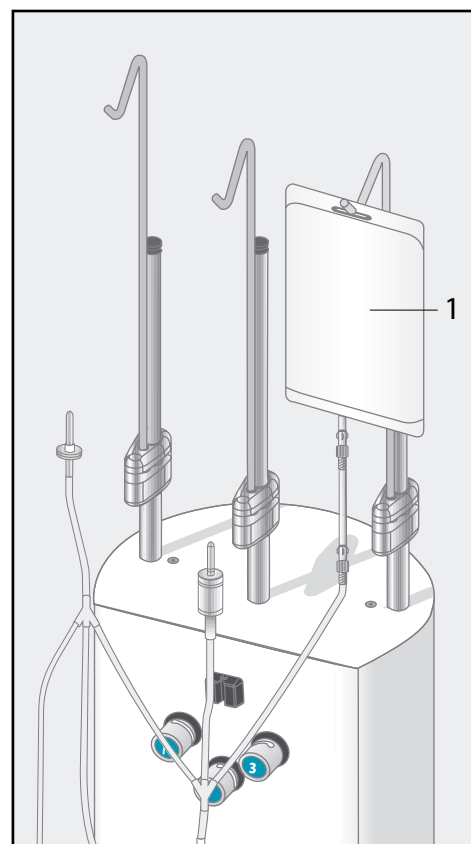

Figure 3: Attach Priming Waste Bag (1) to bag hanger.
1. Attach the Priming Waste Bag (1) to the right hand bag hanger on the instrument as shown (see fig. 3).